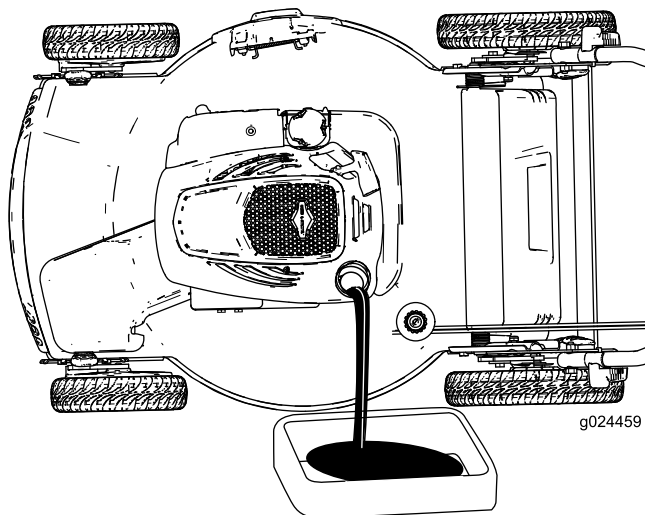
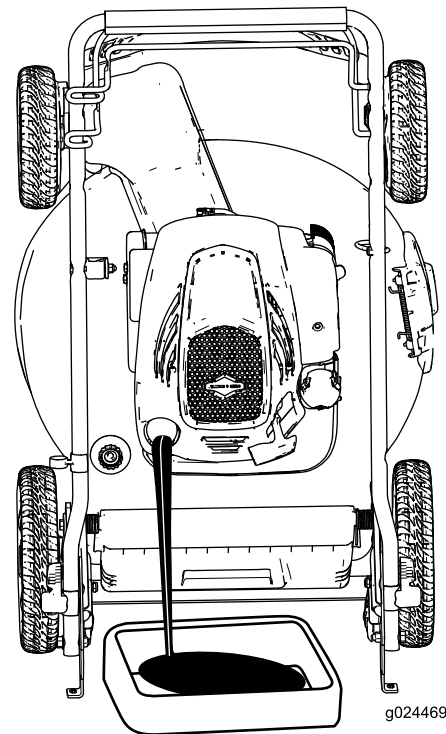

Figure 23
Figure 24
4. Tip the machine onto its side with the dipstick down (Figure 23) or set the machine in the vertical-stow position (Figure 24; refer to Storing the Machine in the Vertical-Stow Position \(page 12\)) to drain the used oil out through the oil-fill tube.